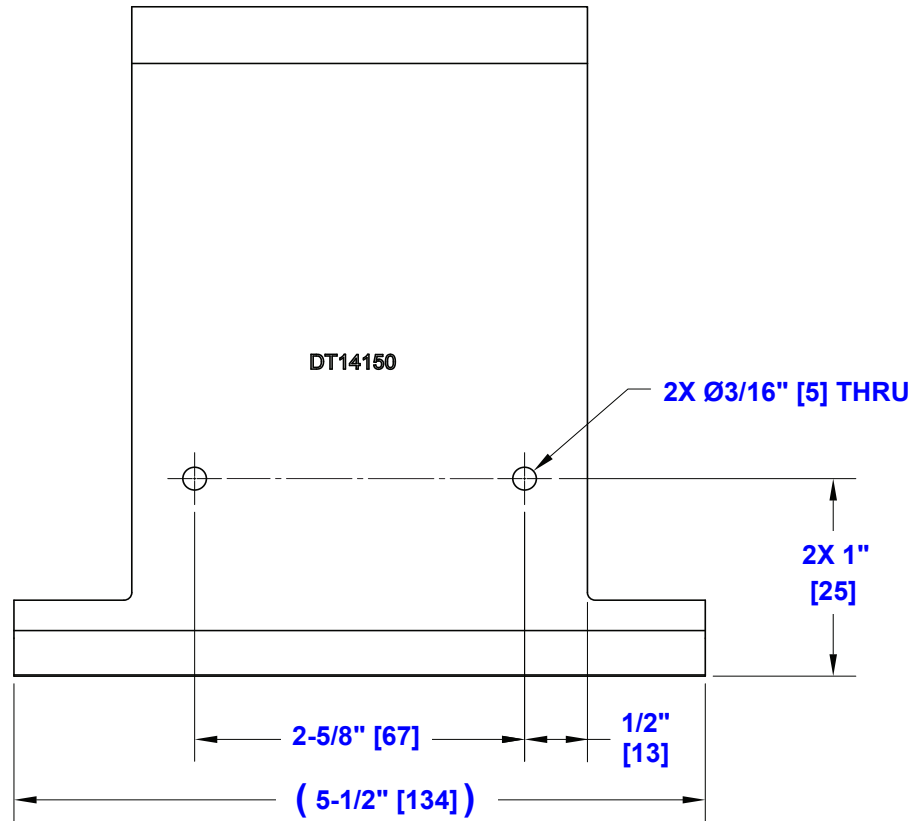

Figure 2: Holes on stop plates
- Drill two (2) holes through both stop plates as shown in Figure 2 detail drawing.